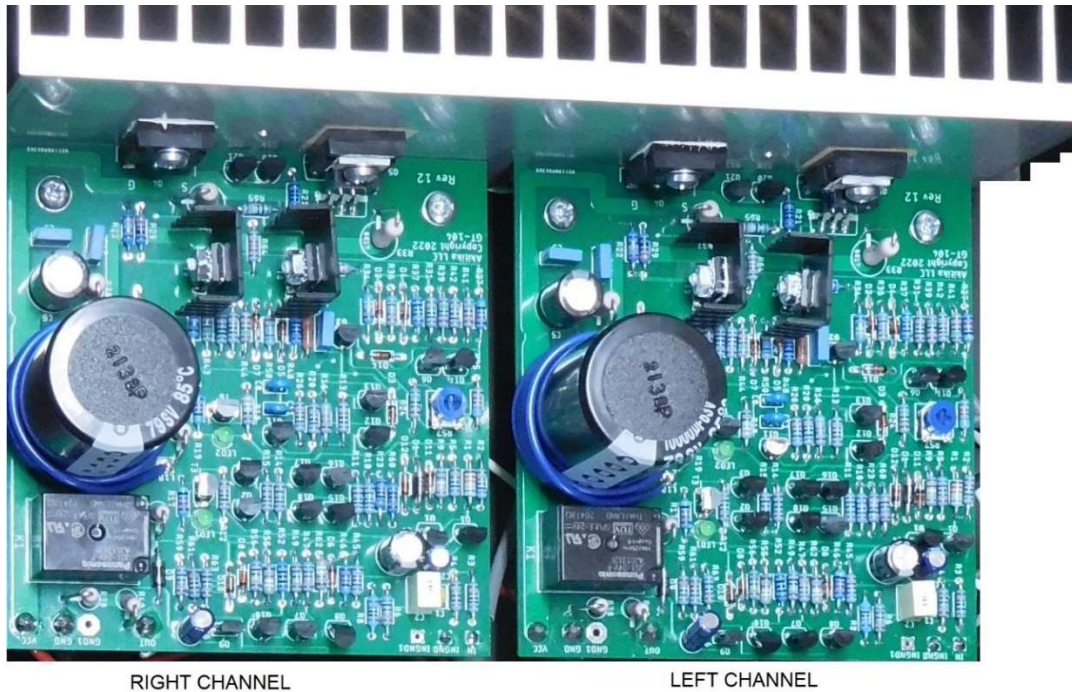

Figure 26-Right and Left Channel Designations
Repeat the method as outlined above to attach the second amplifier circuit board and output devices to the large heatsink, beside the first amplifier. Figure 26 shows you how the result will look.
1. For the module designated as LEFT (see Figure 26), cut a 9” overall length of Red/Black 18 AWG zip cord.
1. For the module designated as RIGHT (see Figure 26), cut an 11” overall length of Red/Black 18 AWG zip cord.